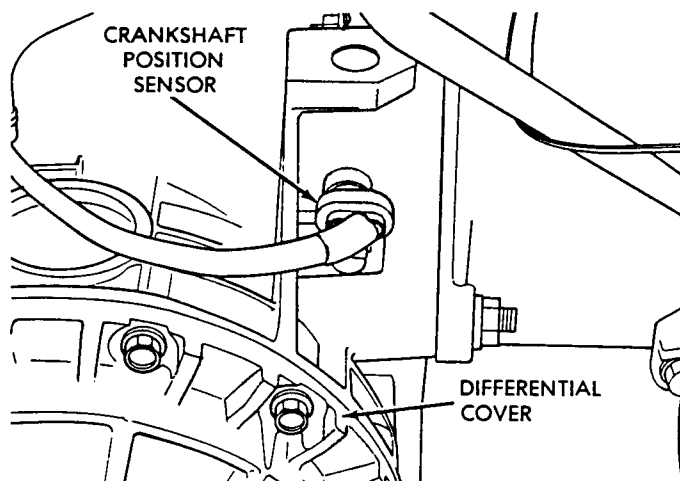

Fig. 1 Crankshaft Position Sensor Location
- (1) Disconnect battery.
- (2) Remove engine air inlet tube.
- (3) Disconnect crankshaft position sensor connector and remove sensor (Fig. 1). The sensor is located on the upper right side of the transaxle bell housing.